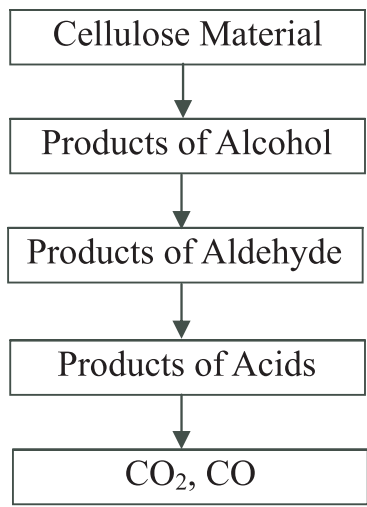

Fig.2: Decomposition Products of Cellulose Paper
4.4.2 The insulating paper used in an oil-immersed transformer decomposes gradually due to heat dissipation. Some of the decomposition products formed from the cellulose paper are shown in Fig.2.